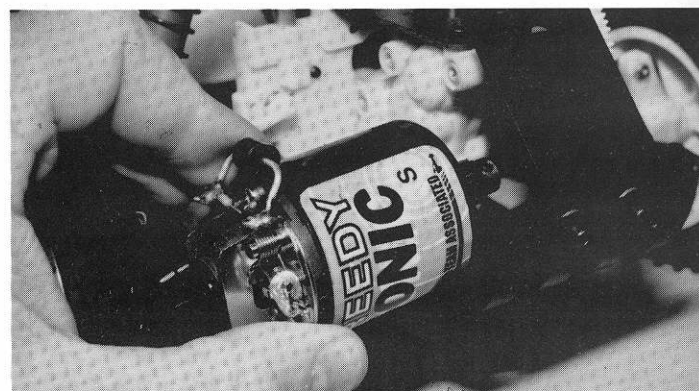

Fig. 165
❑ **Figs. 165, 166 & 167** (1) In the master bag you will find a small bag containing the two #6515 gold 3mm x 6mm SHCScrews and two #6936 #4 aluminum flat washers. These gold colored screws are metric screws used only for mounting the motor to the motor plate. **WARNING! Do not use any of the black 4-40 screws to mount the motor. They can strip out the 3mm screw holes in the motor can, making the motor unusable.**
(2) Place one of the #4 flat washers on each of the #6515 motor screws. (3) Now slip the motor into the opening behind the transmission, from the driver's side, shaft end first. See fig. 165. The pinion gear will slide through the opening in the motor plate. (4) Now rotate the motor until the lower hole in the motor lines up with the lower motor mounting hole. (5) Thread the upper and lower motor screws and washers into the motor, but do not completely tighten the screws yet.
(6) Now we need to set the gear mesh. By moving the motor forward or back we will be moving the motor pinion gear closer to or away from the nylon spur gear. What we want to do is the get metal pinion gear as close to the nylon spur gear as we can without jamming the gears. The easiest way to check this is to put your finger on the plastic gear and see if you can rock it in the teeth of the metal pinion gear, but without moving the metal pinion gear. The gears should be as close as possible, but still have the ability to rock the plastic gear. (7) When you have the spacing correct you can go back and tighten both of the motor mounting screws. (8) Now recheck the gear spacing. It is important to